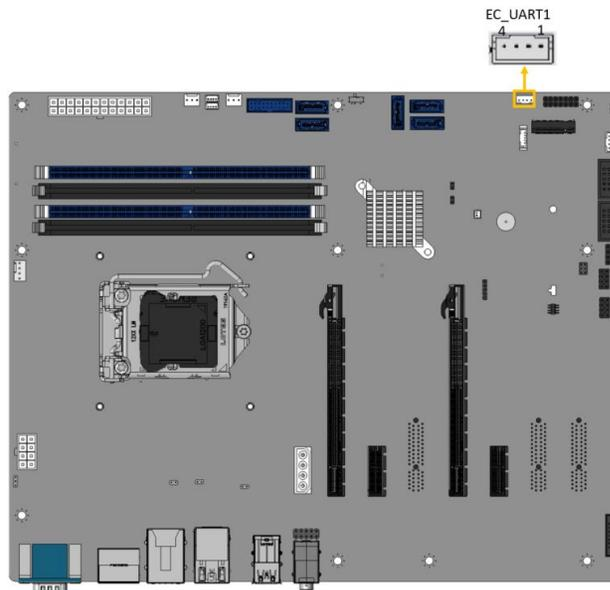

Figure 3-7: EC UART Debug Connector Location
- CN Location:** See Figure 3-7